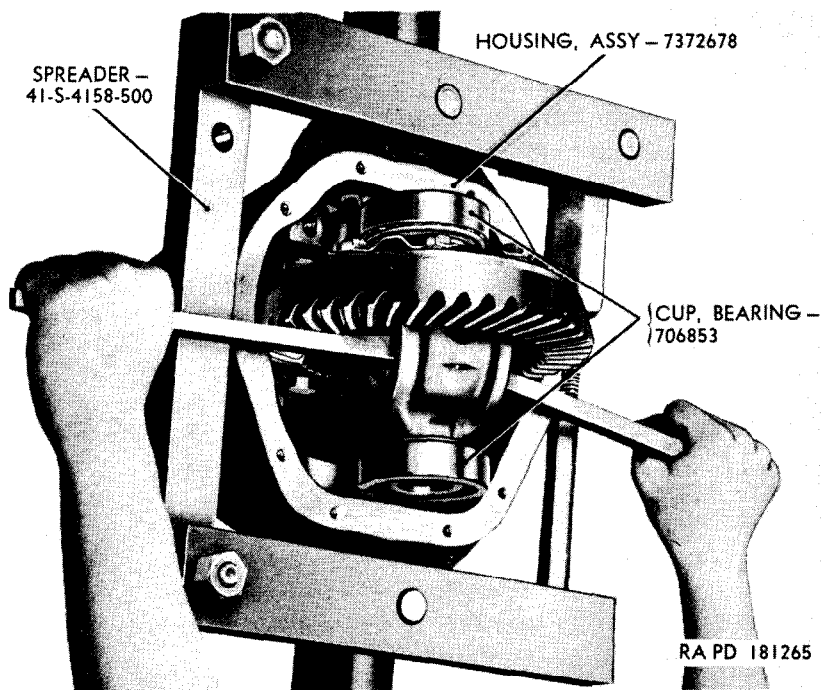

Figure 129. Removing rear axle differential assembly.
d. Remove Differential Assembly. If difficulty is experienced in lifting differential assembly from housing assembly, use pry bars to aid in removal (fig. 129). After removing differential assembly, remove spreader from housing. Remove two bearing cups (fig. 129) from bearing cones on differential assembly.